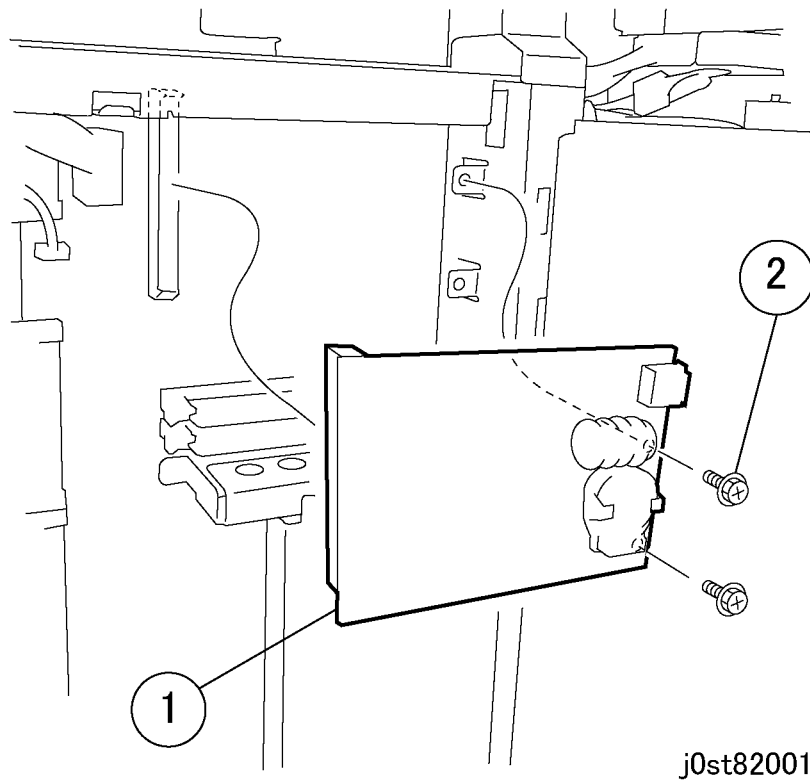

Figure 5 Installing the FMO PWB (j0st82001)
4. Install the FMO PWB. (Figure 5)